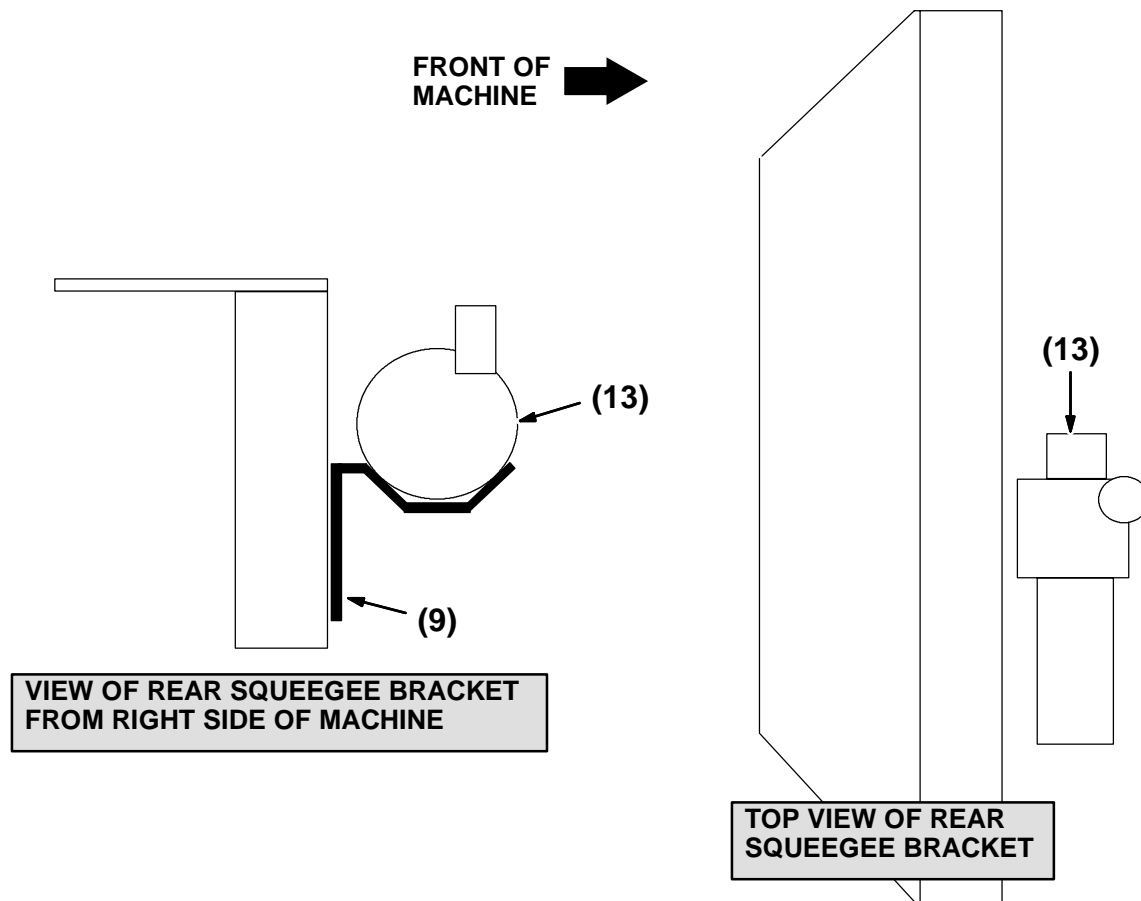

FIG. 5 - New ES™ Parts Assembly
7. Position the new ES pump (13) in the new mount bracket (9) with the fittings toward the inside of the machine. Make sure the OUT port with the straight fitting is on **top** and the IN port with the 90° fitting should be on the **bottom**. Use the worm drive clamp (10) to secure the pump to the bracket. (Refer to FIG. 5 and 7)